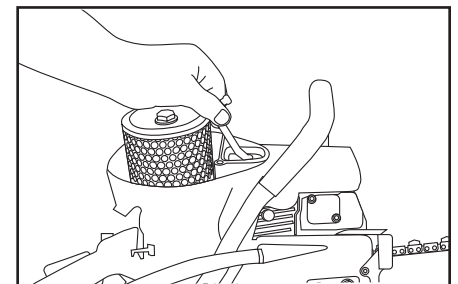

Figure 2
- Remove the spark plug and insert the piston stop (supplied with each saw) into the spark plug hole. Pull the starter cord slowly until the piston stops. (Figure 2) Use a 19 mm wrench to turn the clutch clockwise and remove.